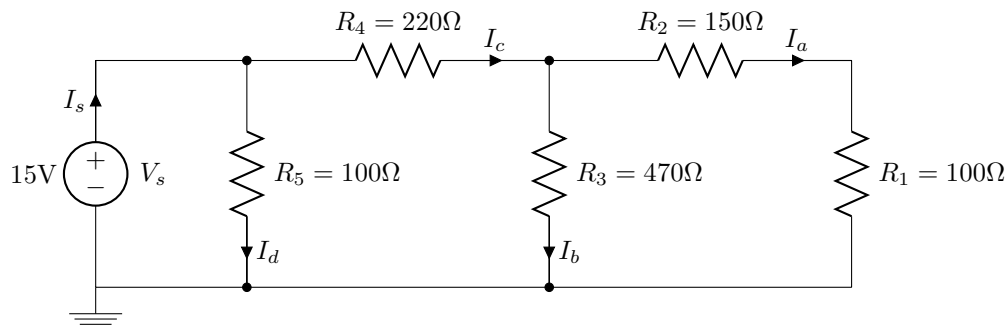

Figure 2:
2. Given the circuit shown in Figure 2
3. Create the circuit from Prelab part 2 (shown Figure 2) in Multisim and simulate the circuit using the same DC Analysis feature. You'll have to set up more expressions for this simulation as there are more voltage drops between non-reference nodes.